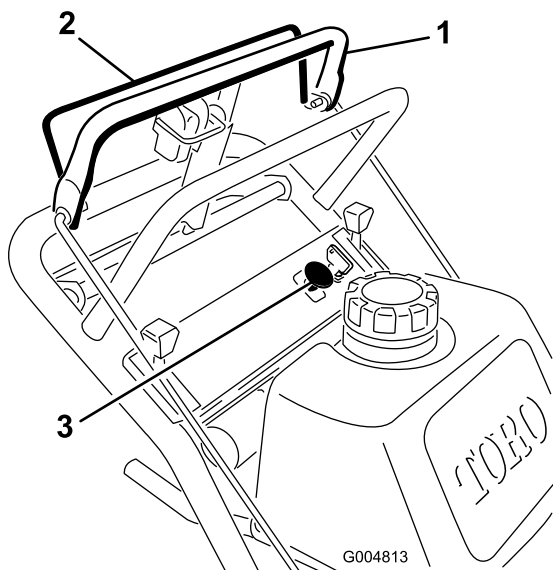

Figure 9
1. Release the upper control bar to stop the machine (Figure 9).
- Engage the blade by squeezing the blade-control bail against the upper control bar (Figure 9).
Release the blade-control bail to disengage the blades (Figure 9).